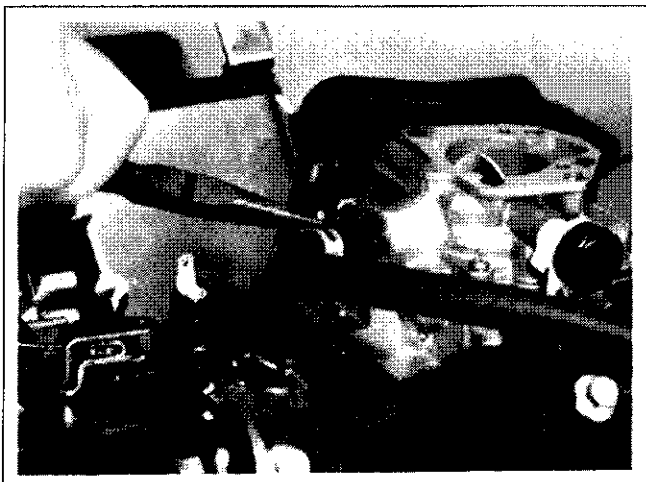

Figure 9-11. Disconnecting Fuel Inlet Line at Carburetor.
1. Disconnect the fuel lines at the carburetor and at the in-line fuel filter. See Figure 9-11.